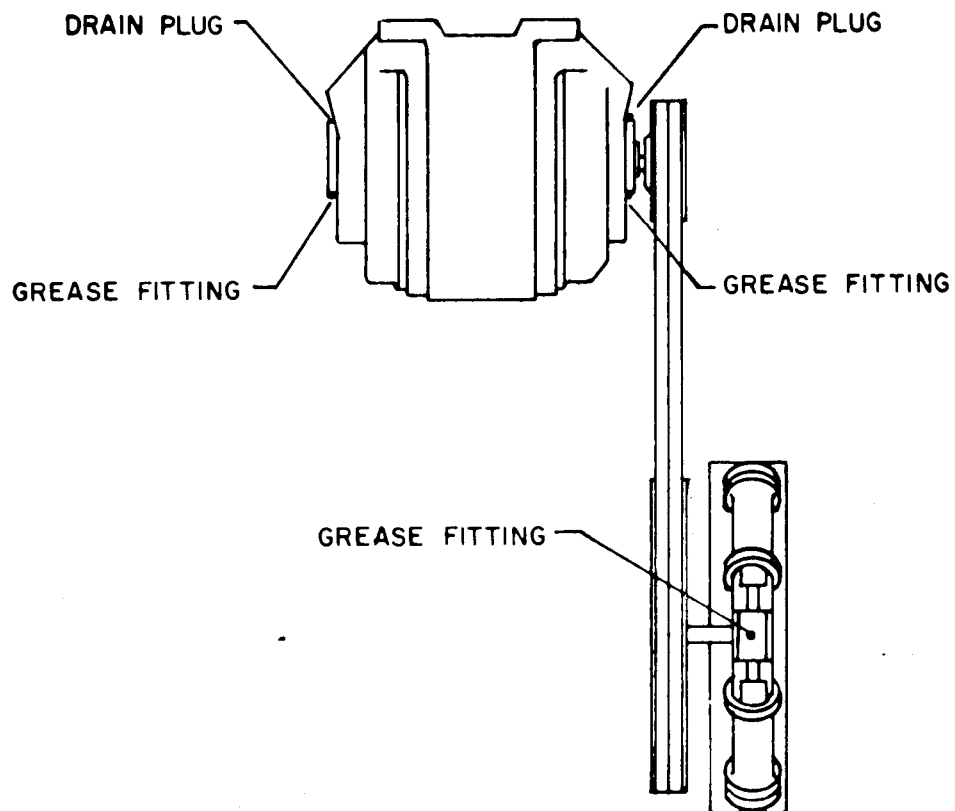

FIG. 4
5-19. BURNER HEAD. (See Figure 4)
- a. Clean all carbon deposits from the electrodes and burner nozzle. Check the electrode gap and adjust as shown in Figure 4.
- c. Remove carbon deposit from electrodes (5) and (6).
- d. Disassemble dribble valves (8) and clean inside. Blow out with compressed air. Replace if necessary.
5-32. LUBRICATION. (See Figure 4)